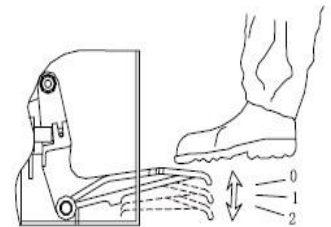
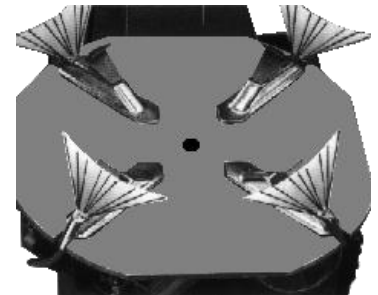

Fig 18
Fig 19
- a. Press Rapid Tire Inflation Pedal to the middle position (Fig 18, position 1), the inflating head should give air.
- b. Press Rapid Tire Inflation Pedal all the way down (Fig 18, position 2), a strong air blast should come from the holes in the four jaws' locking sliders. (Fig 19)